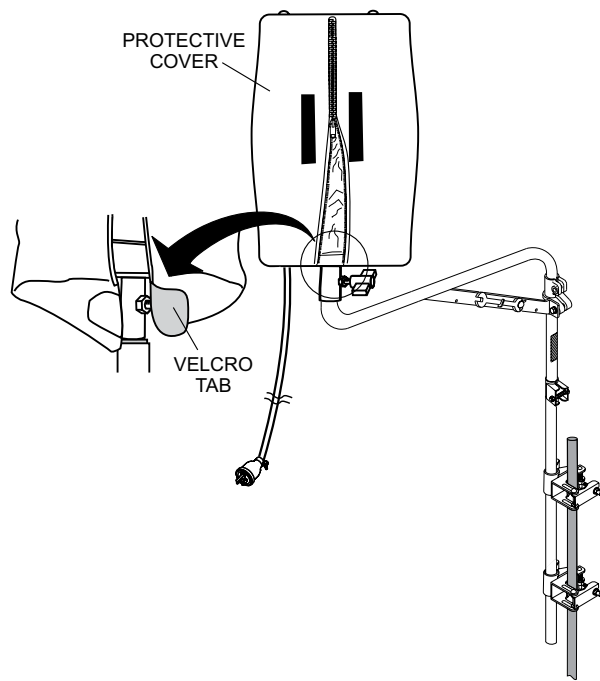

Figure 31. Removing Balloon/AC Power Cord
1. Expose the balloon by pulling down on the velcro tab and unzipping the protective cover as shown in Figure 31.